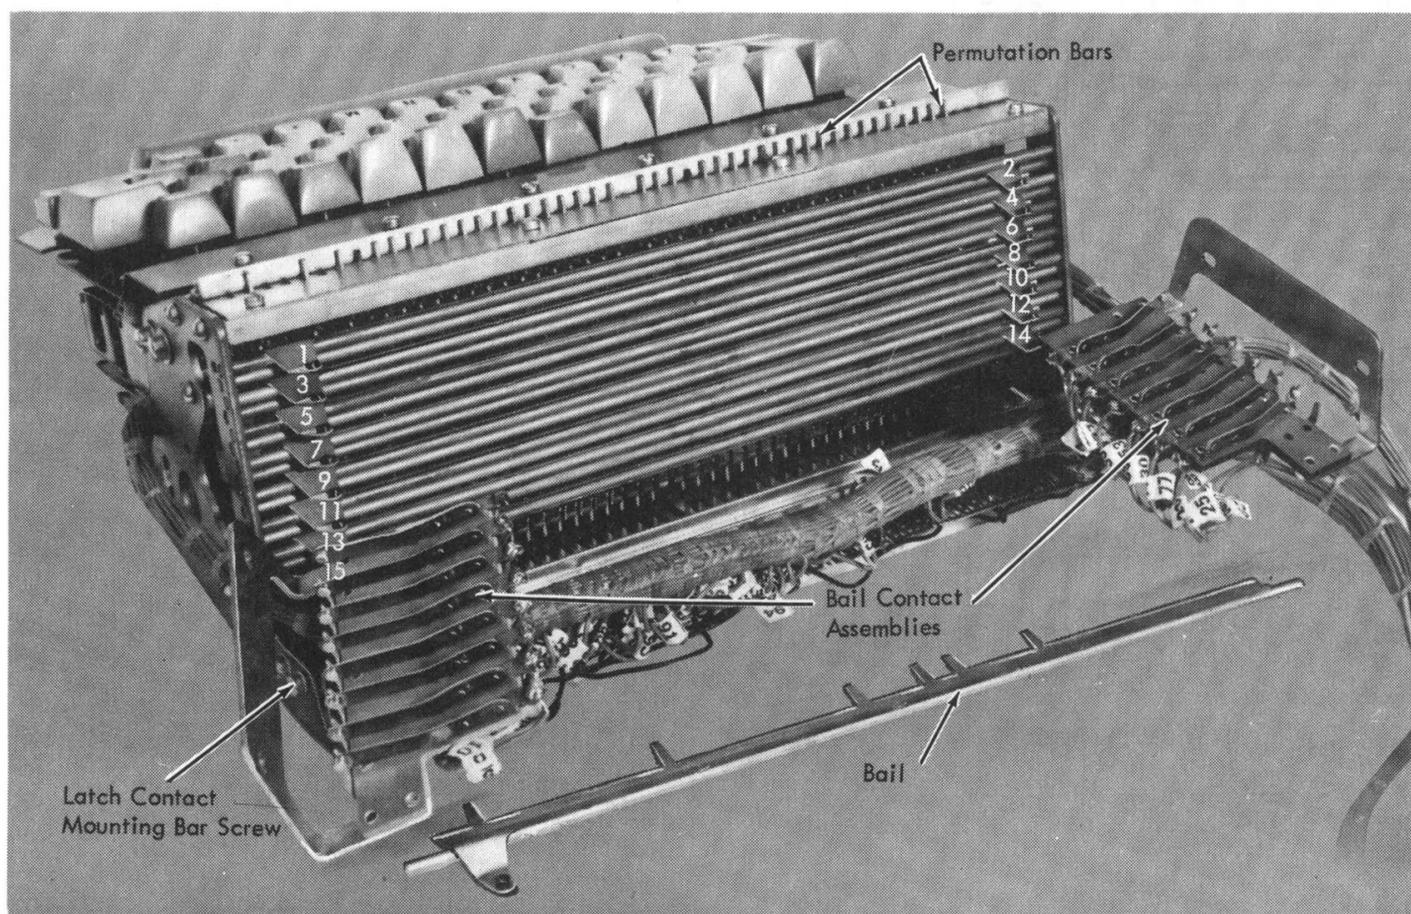

Figure 4-54. Keyboard Permutation Unit - Rear
When a new bail (Figure 4-54) is installed, form all tabs on each bail for 0.000-inch to 0.005-inch clearance to associated operation ears on permutation bar, with latch assemblies in restored position. This may be checked on a keyboard with its covers removed. Check tension required to just open a closed bail contact for each key that operates that bail; tension should be at least 15 grams. Bail contact air gap and tension on operating strap affects this tension and should be checked before a measurement is attempted.
1. Remove the two bail contact assemblies shown in Figure 4-54. Each assembly is held by two screws and may be shimmed away from the side frame. Note the position of these shims.
5. Remove the two bail contact assemblies shown in Figure 4-54.
6. Remove the contact bails; they are numbered 1 to 15, top to bottom (Figure 4-54).